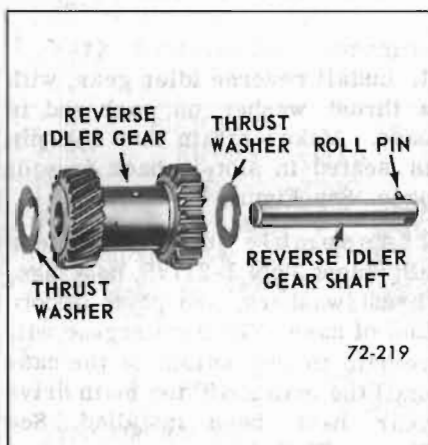

Figure 72-219—Exploded View of Reverse Idler Gear
1. Install reverse idler gear, with a thrust washer on each end in case. Make certain that roll pin is seated in slot in back face of case. See Figure 72-219.